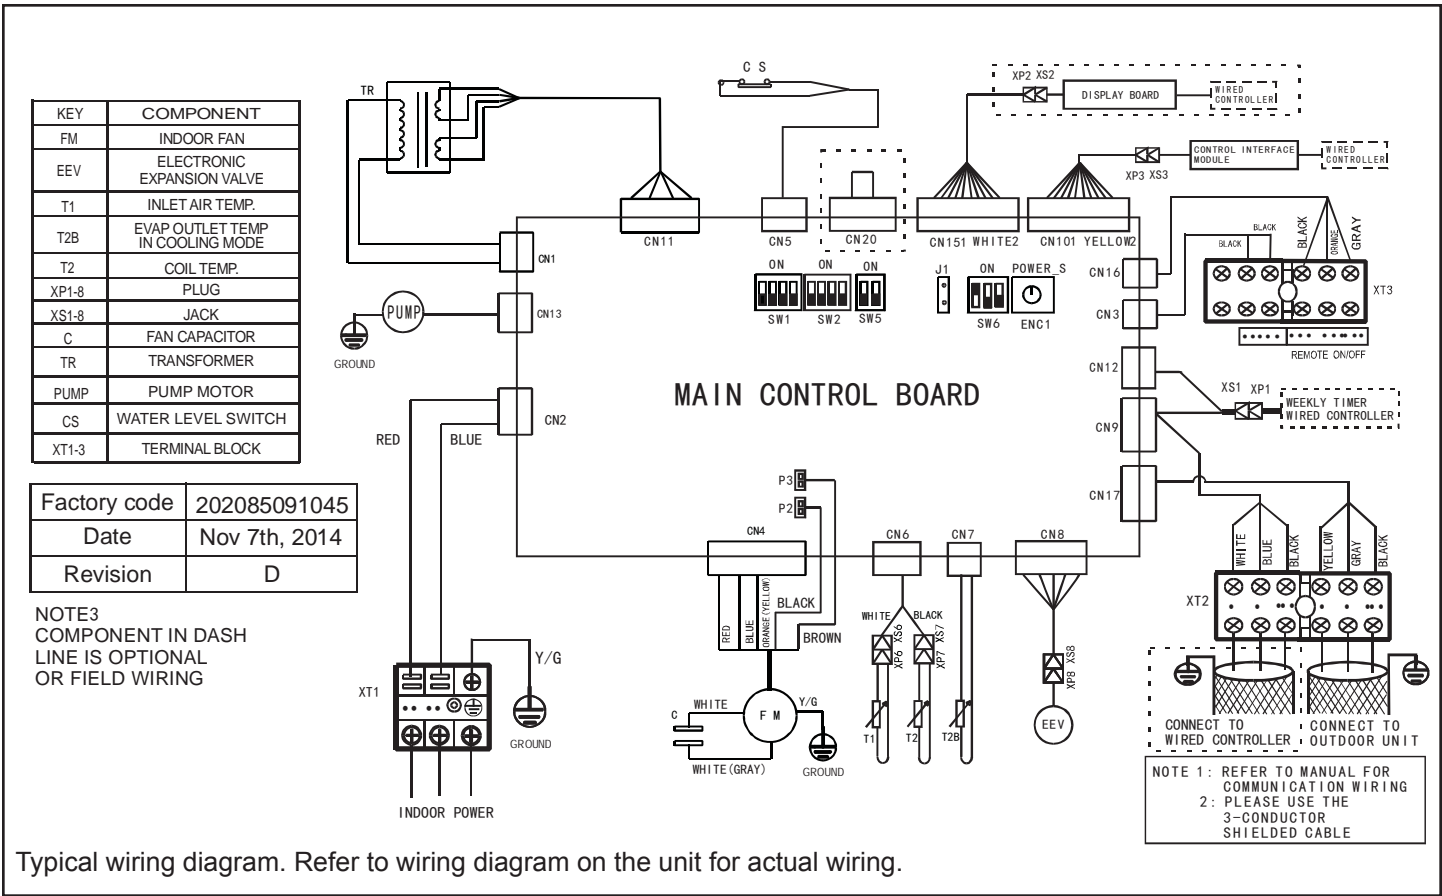

Figure 14. Wiring Diagram VWMA24S & VWMA30S Standard Efficiency Models
2. Locate the terminal strip in the control box. Connect the power wiring (sized per NEC/CEC and local codes) and communications cable (three-core, shielded cable) per figures 14 and 15. Refer to unit nameplate for rated voltage.